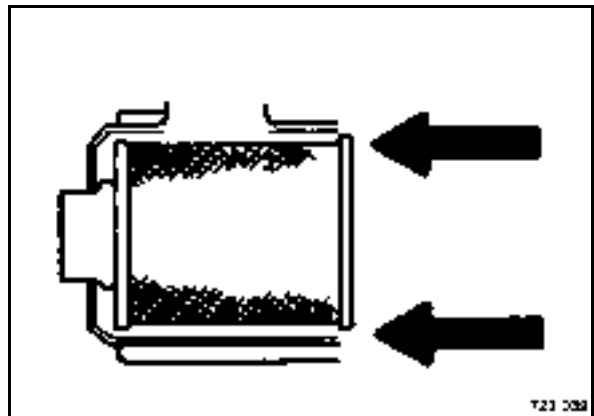

Fig. 141
- Insert the filter element (Fig. 141).